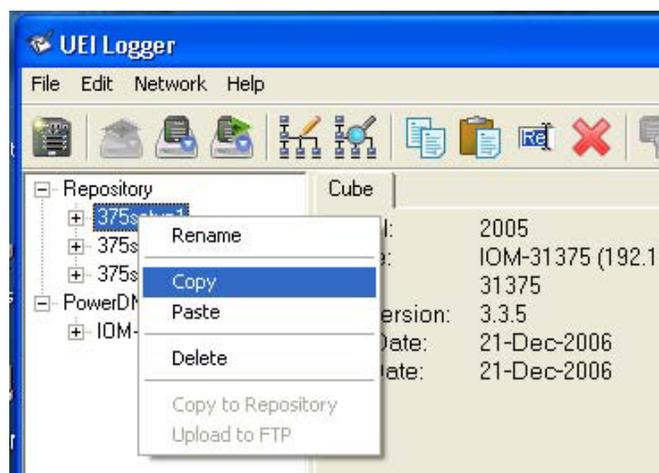

Figure 2-10 Copying a Configuration to a Cube - Step 2
- STEP 2:** Right-click on the setup to be copied and select Copy, as shown in **Figure 2-10**.